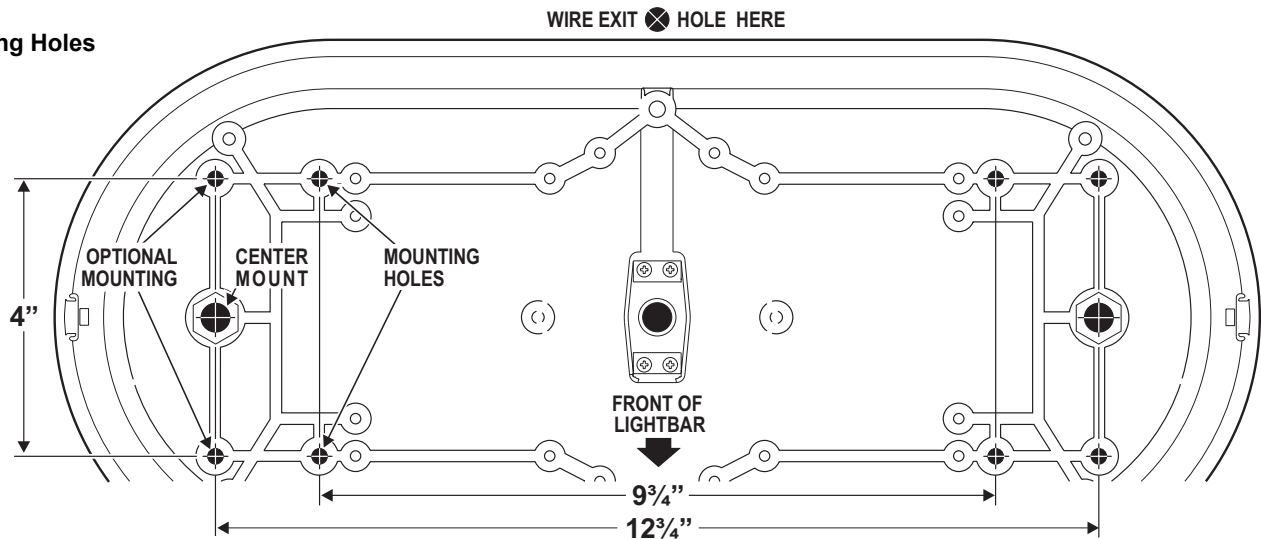

Fig. 3:
9. Wire the Guardian™ as shown in Fig. 3.
6. Wire the Guardian™ as shown in Fig. 3.
8. Wire the Guardian™ as shown in Fig. 3.
IMPORTANT! Guardian models equipped with cigar cords are intended for short duration, intermittent operation only! Prolonged operation requires the Guardian to be wired to the vehicle as shown in Fig. 3.
If converting a cigar cord model to permanent wiring, the ribbed side of the cigar cord is positive (+). See Fig. 3 for wiring information.